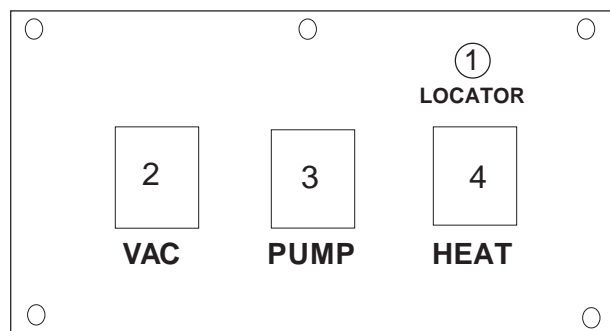

Figure 5
- C. Plug in cord #2. The "Locator" light will illuminate when the cords are plugged into separate circuits. Turn the "Heat" switch on; wait two minutes for the heat exchanger to reach operating temperature. You may now begin cleaning. It will take about 10 seconds for the initial heat to reach the wand. The "Mode" light will turn on when the heat exchanger is actively heating. (See Figures 5, 6 and 7)